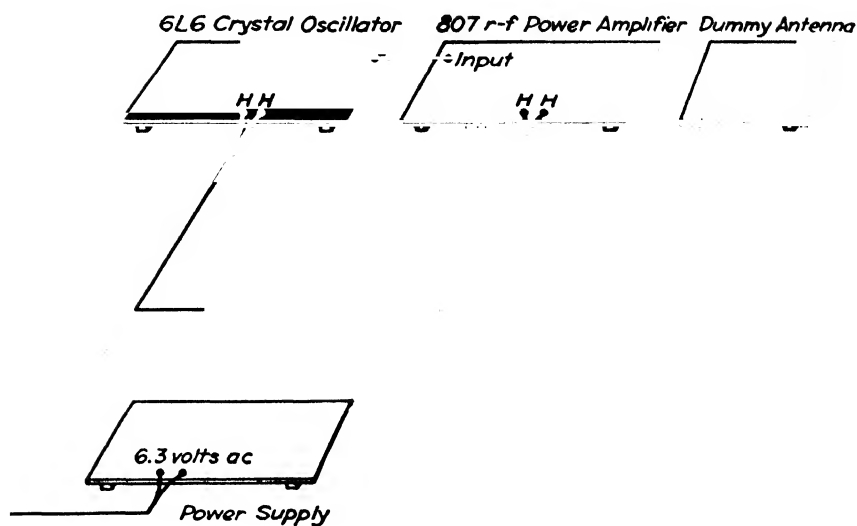

FIG. 442. Hook up the oscillator and amplifier by first connecting the wires to the heater circuits and to the power supply.
Step 1. Hook up the amplifier and the crystal oscillator (see Fig. 442).
Step 2. Connect the filament heaters to the power supply, and test the connection (see Fig. 442). *Turn off the power supply.*